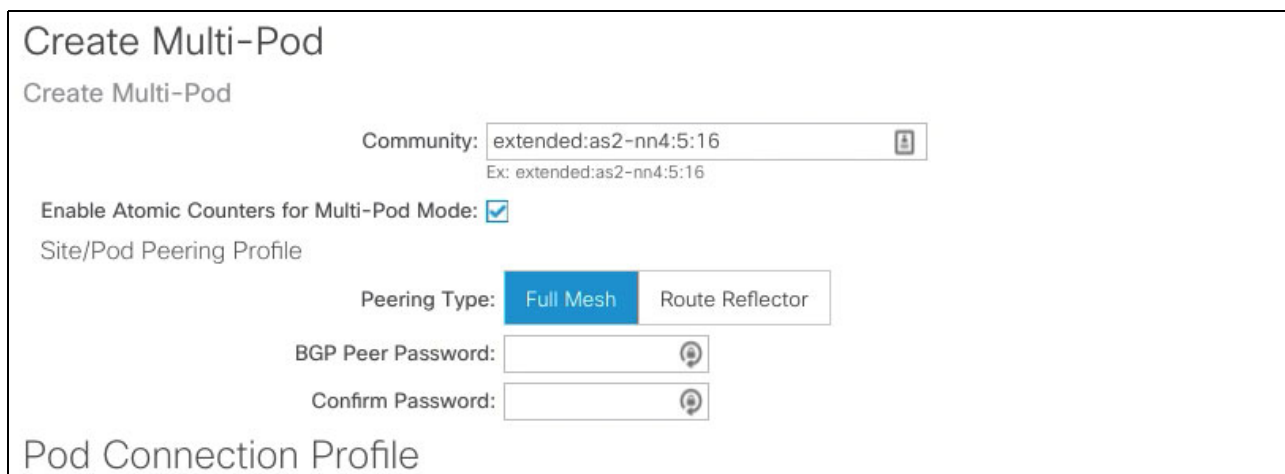

Figure 4-13 Create Multi-Pod
5. Select **Peering Type** as **Full Mesh** (because there are only two sites), as shown in Figure 4-13.